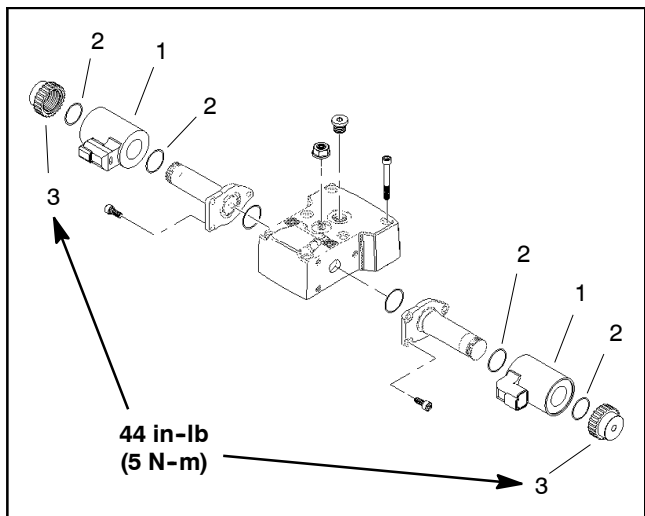

Figure 73
4. If solenoid coil resistance is incorrect, replace coil (Fig. 73):